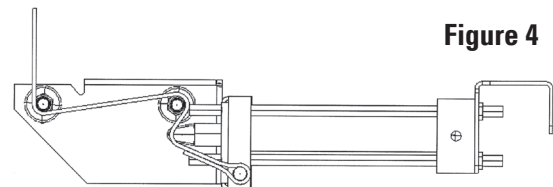

Figure 4
1. Make sure web tethers are routed per diagram on S4S, and not twisted, pinched or damaged before unit is torqued. **See FIGURE 4.**